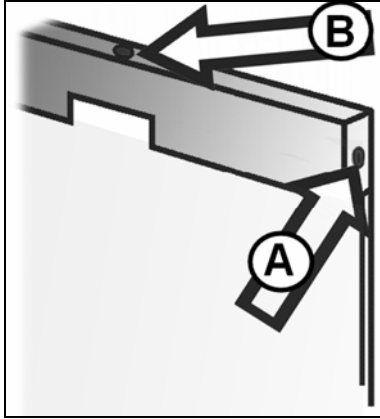

Figure 5-40: Removing the Mounting Bracket
2. Remove one screw from each side of the door (Figure 5-40, Item A).
3. Support the mounting bracket; remove the top screw (Figure 5-40, Item B)